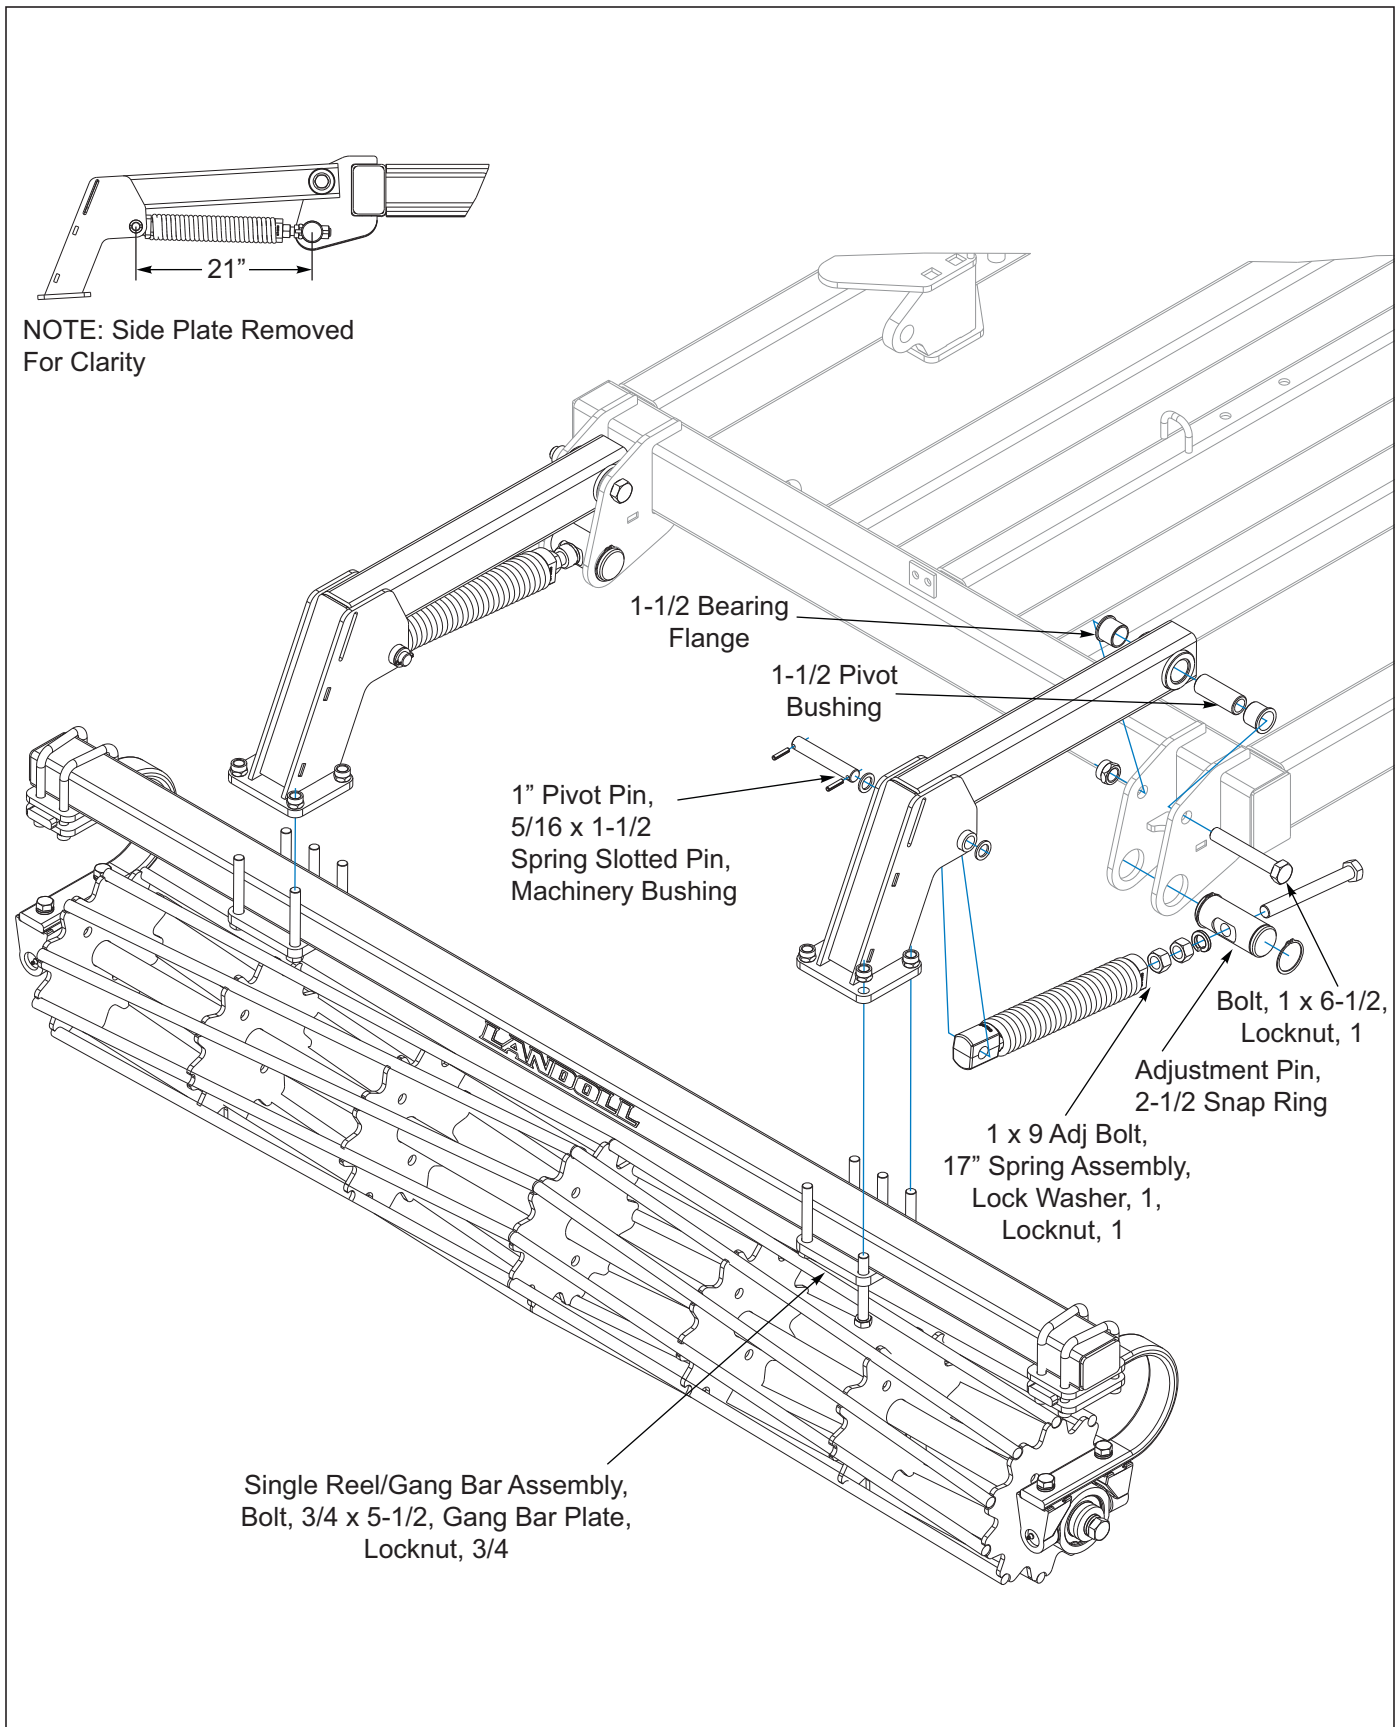
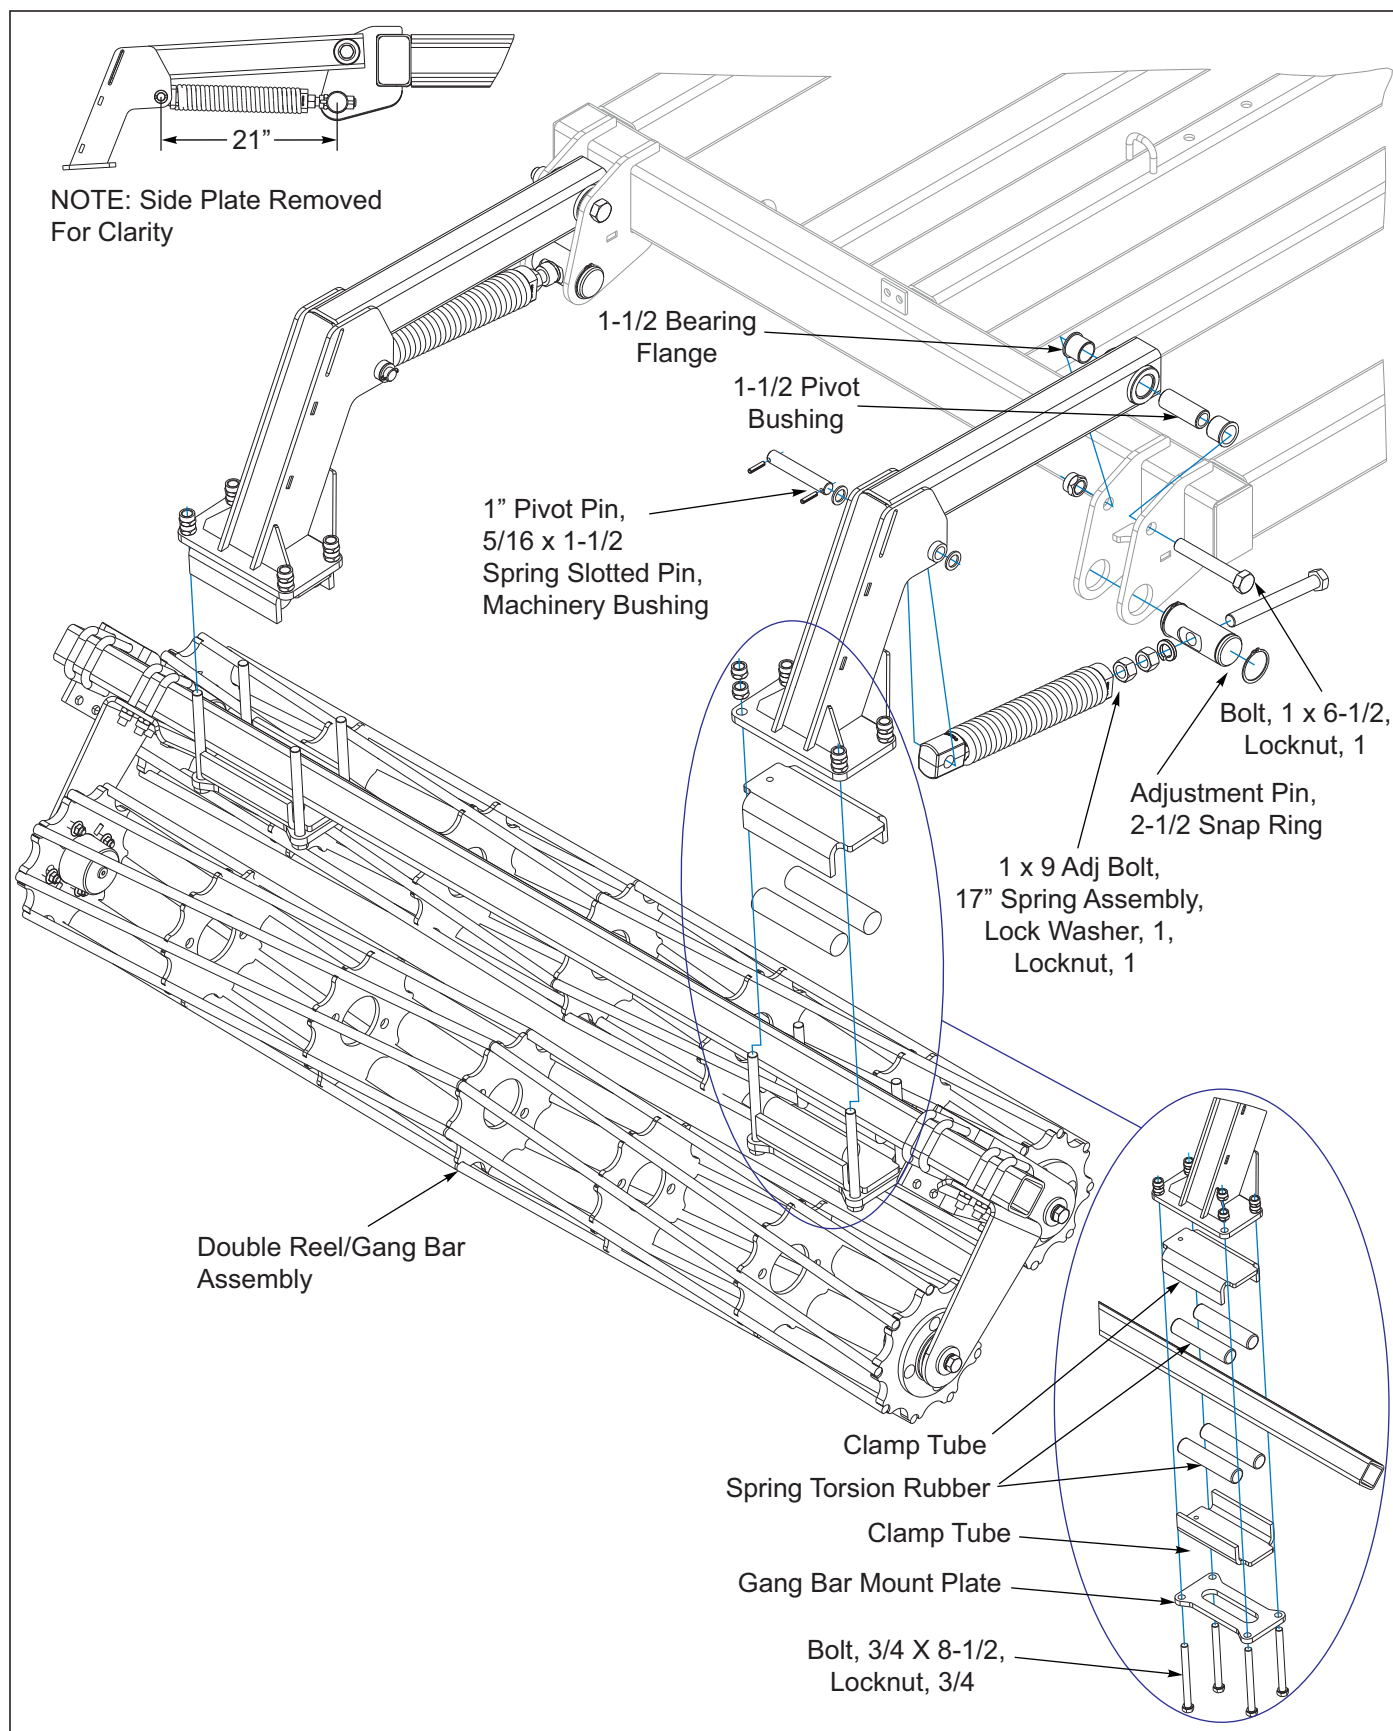

Figure 3-11: Conditioner Single Reel Installation
Figure 3-12: Conditioner Double Reel Installation
Refer to *Conditioner Single Reel Installation* See Figure 3-11 for single reel installation or *Conditioner Double Reel Installation* See Figure 3-12 for double reel installation.
1. Slide the adjustment pin through the rear plates of the frame, secure with (2) 2-1/2 snap rings.
2. Assemble the 1 x 9 adj bolt through adjustment pin on frame, 1" lock washer, (2) 1 hex nuts, and 17" spring assembly.
5. Assemble 17" spring assembly to reel arm using 1" pivot pin, and 5/16 x 1-1/2" spring slotted pins. Set pin centers to 21" dimension as shown in Figure 3-11.
6. Attach single reel/gang bar assembly to reel arms using gang bar mount plate, 3/4 x 5-1/2 bolts and lock nuts See Figure 3-11. See Figure 2-3 through See Figure 2-4 in "Specification Section" for single reel gang bar placement locations.
7. Attach double reel/gang bar assembly to reel arms using gang bar mount plate, (2) clamp tubes, (4) spring torsion rubber, secure with 3/4 x 8-1/2 bolts and lock nuts See Figure 3-12. See Figure 2-6 through See Figure 2-7 in "Specification Section" for double reel gang bar placement locations.